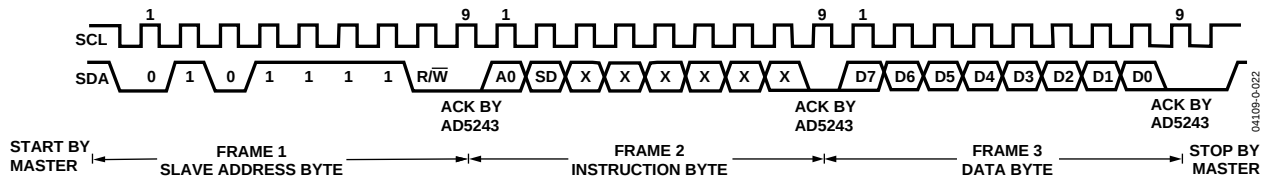
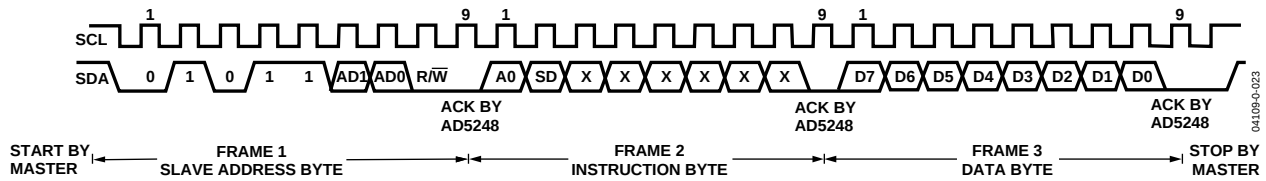
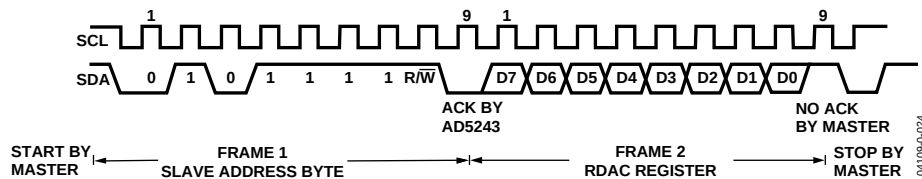

Figure 45. Writing to the RDAC Register—AD5243
Figure 46. Writing to the RDAC Register—AD5248
Figure 47. Reading Data from a Previously Selected RDAC Register in Write Mode—AD5243
1. The master initiates data transfer by establishing a start condition, which is when a high-to-low transition on the SDA line occurs while SCL is high (see Figure 45). The following byte is the slave address byte, which consists of the slave address followed by an R/W bit (this bit determines whether data is read from or written to the slave device). The AD5243 has a fixed slave address byte, whereas the AD5248 has two configurable address bits, AD0 and AD1 (see Figure 10).
SDA line must occur during the low period of SCL and remain stable during the high period of SCL (see Figure 45 and Figure 46).
3. In the read mode, the data byte follows immediately after the acknowledgment of the slave address byte. Data is transmitted over the serial bus in sequences of nine clock pulses (a slight difference with the write mode, where there are eight data bits followed by an acknowledge bit). Similarly, the transitions on the SDA line must occur during the low period of SCL and remain stable during the high period of SCL (see Figure 47 and Figure 48).
Note that the channel of interest is the one that is previously selected in write mode. If users need to read the RDAC values of both channels, they need to program the first channel in write mode and then change to read mode to read the first channel value. After that, the user must return the device to write mode with the second channel selected and read the second channel value in read mode. It is not necessary for users to issue the Frame 3 data byte in write mode for subsequent readback operation. Users should refer to Figure 47 and Figure 48 for the programming format.
4. After all data bits have been read or written, a stop condition is established by the master. A stop condition is defined as a low-to-high transition on the SDA line while SCL is high. In write mode, the master pulls the SDA line high during the 10th clock pulse to establish a stop condition (see Figure 45 and Figure 46). In read mode, the master issues a no acknowledge for the ninth clock pulse (that is, the SDA line remains high). The master then brings the SDA line low before the 10th clock pulse, which goes high to establish a stop condition (see Figure 47 and Figure 48).